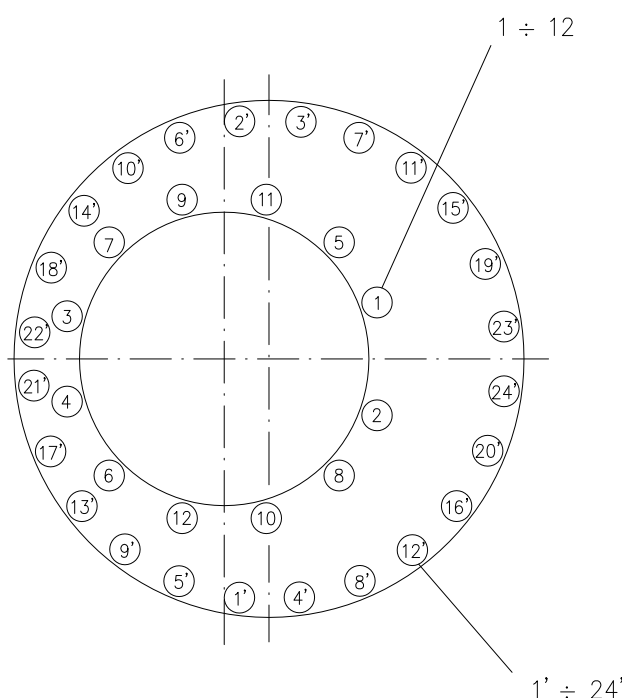

Fig.18 – Tightening sequence of the nuts on the shield of the oil compartment
5.1.10. The fastening of the carrying shield on the installation flange must be performed by means of M14 nuts or bolts in the sequence shown in Fig. 18: